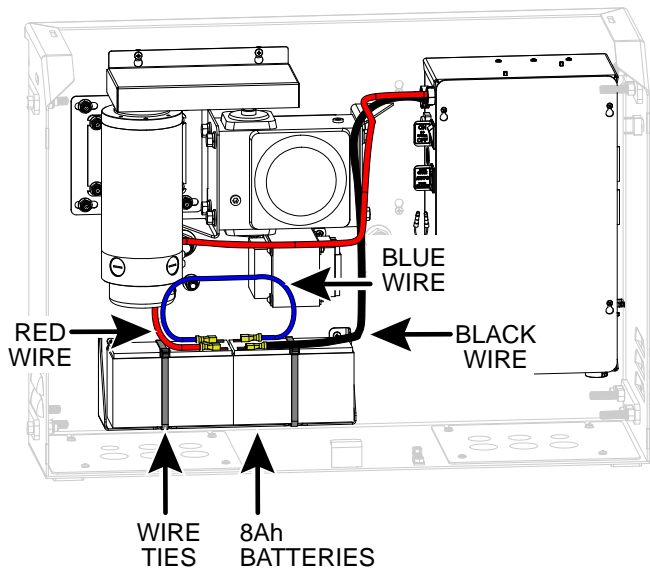

Figure 77. New DC Battery Replacement
4. As you slide the battery onto the tray, connect the black wire to the black terminal on the right battery. See Figure 77.